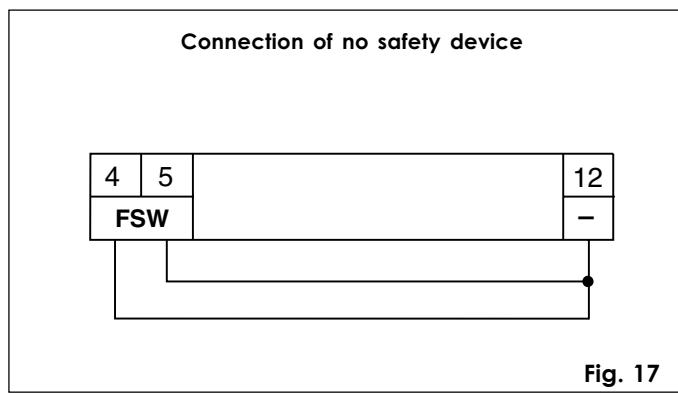

Fig. 17
N.B.: If no opening safety devices are connected, jumper connect inputs **OP** and **-** (fig. 17).
N.B.: If no closing safety devices are connected, jumper connect inputs **CL** and **-** (fig. 17).